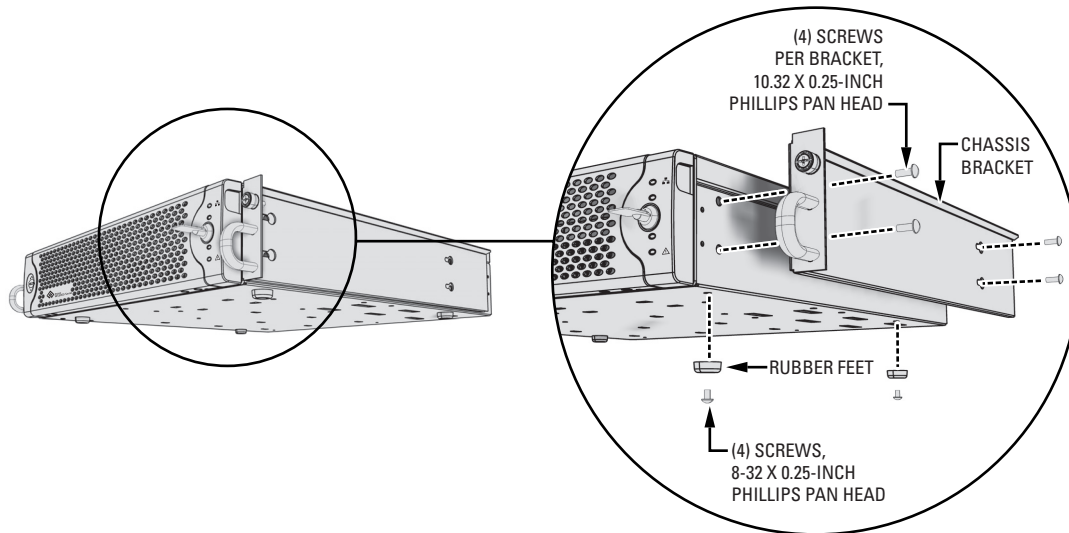

Figure 5. Chassis Brackets and Rubber Feet
1. If chassis mounting brackets are not attached: Attach one mounting bracket (supplied) to each side of the Endura workstation. Use four 10-32 x 0.25-inch Phillips pan head screws (supplied) for each bracket. Attach the brackets so that the tapered ends are positioned toward the rear of the Endura workstation (refer to Figure 5).